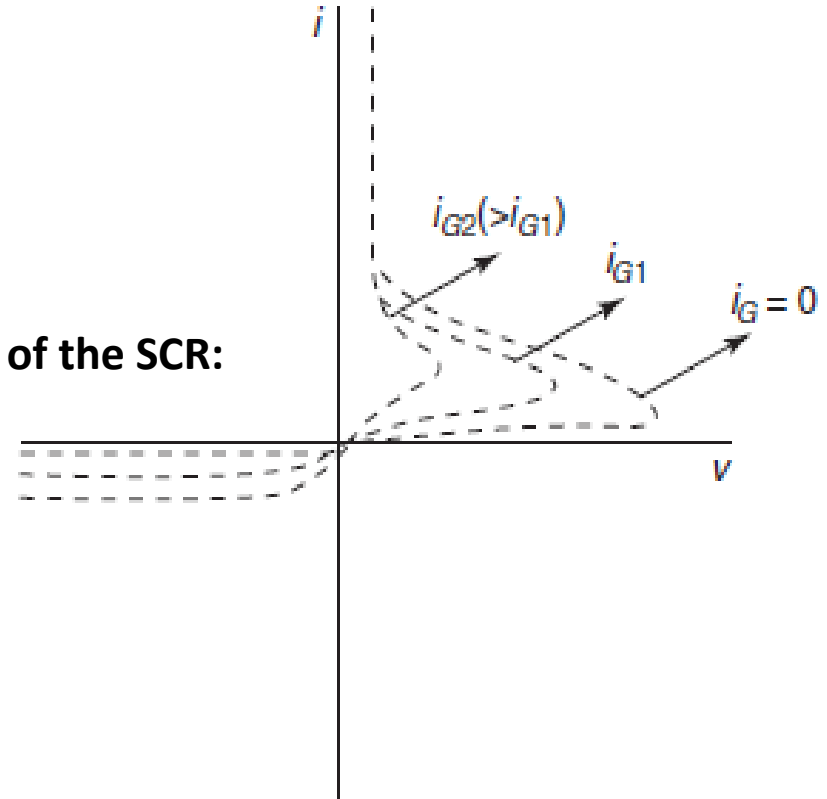

Figure 8-5 I–V characteristics of SCR
- As shown in Fig. 8-5, if the gate current is 0 mA, the critical voltage is higher, i.e., the SCR requires more voltage to switch to the conducting state.